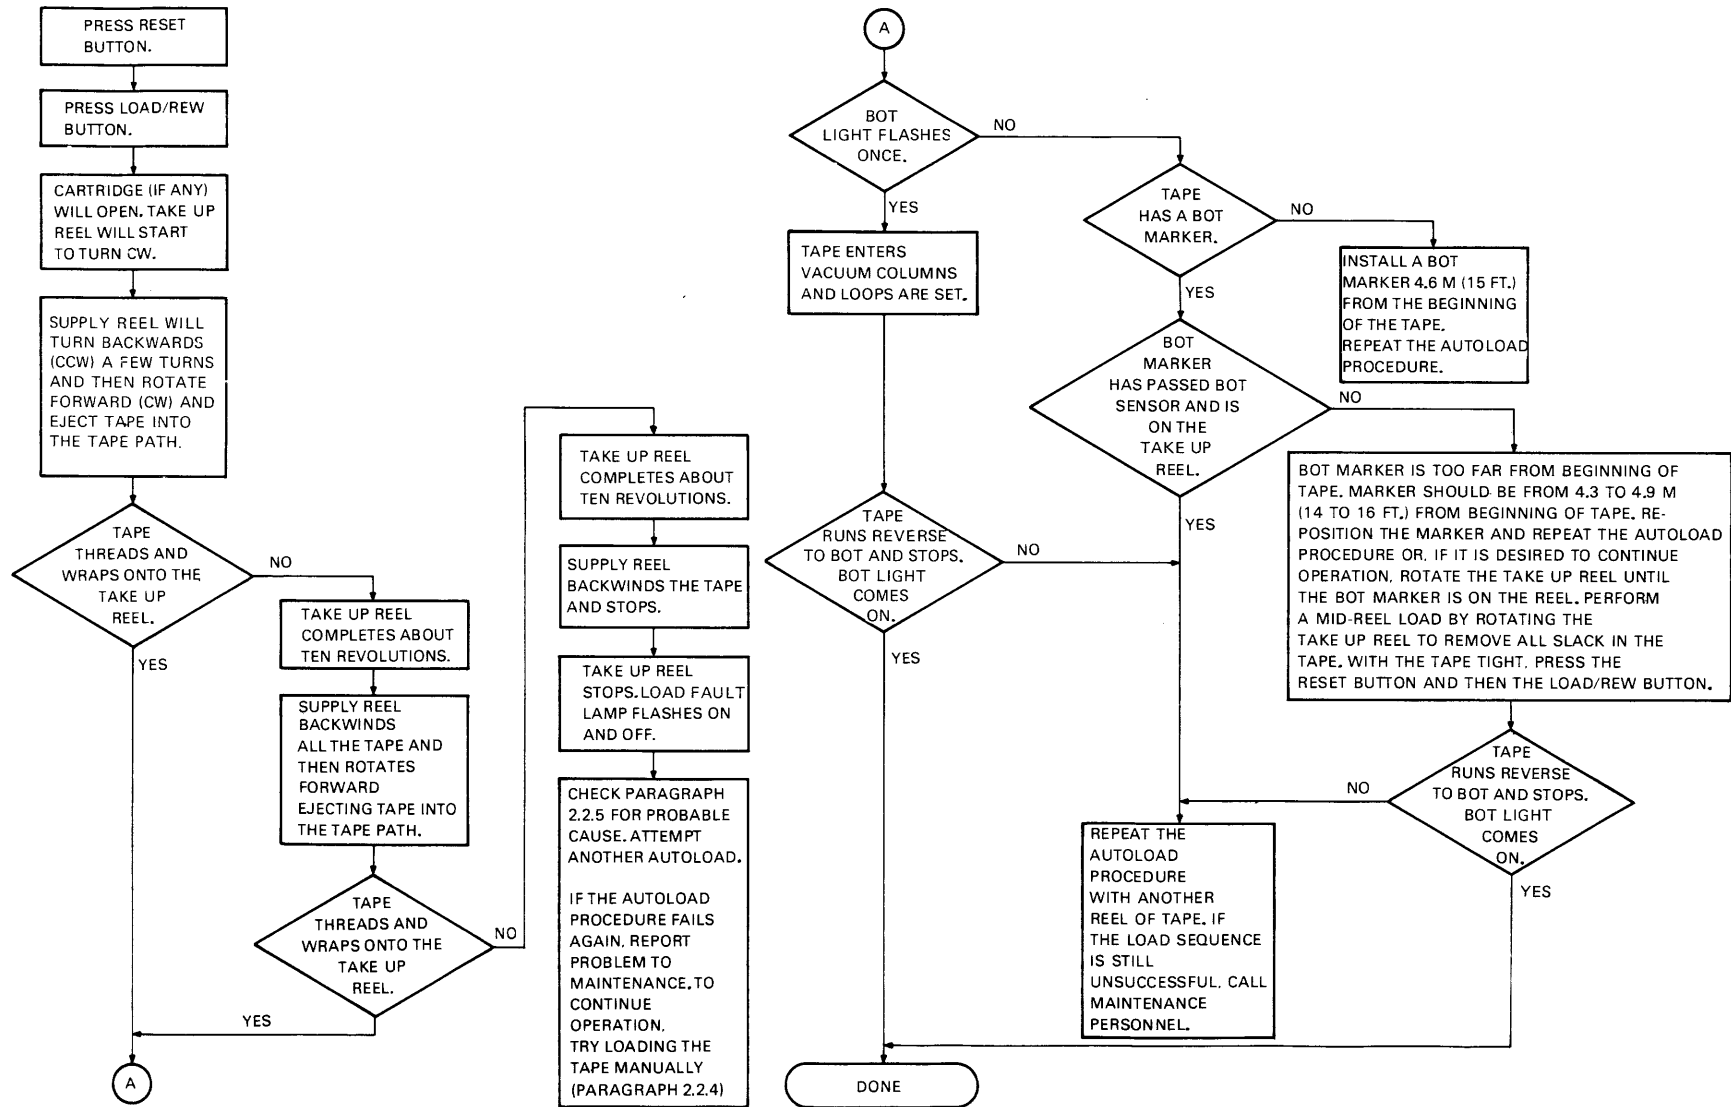

Figure 2-4 Autoload Sequence with Operator Troubleshooting
10. Follow the instructions and check for the events specified in Figure 2-4. If the tape fails to load properly, the figure contains some operator troubleshooting hints that can be tried before maintenance personnel are called. Refer to Figure 2-5 to identify tape path components.